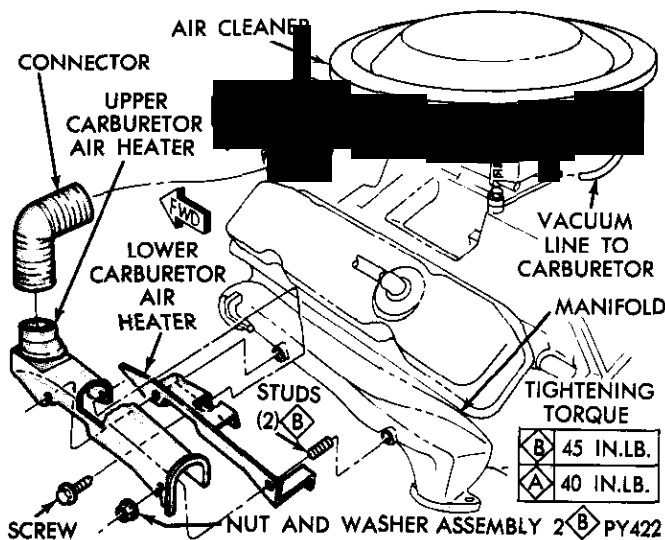

Fig. 8—Carburetor Air Heater 383, 440 Cubic Inch Engines
(1) Disconnect flexible connector between air cleaner and carburetor air heater.
(2) Refer to figure 8, remove attaching screws, nut
(1) Refer to figure 8, install carburetor air heater with attaching screws, bolts, nut and washer assemblies. Torque to specifications.
(2) Install flexible connector between air cleaner and carburetor air heater.